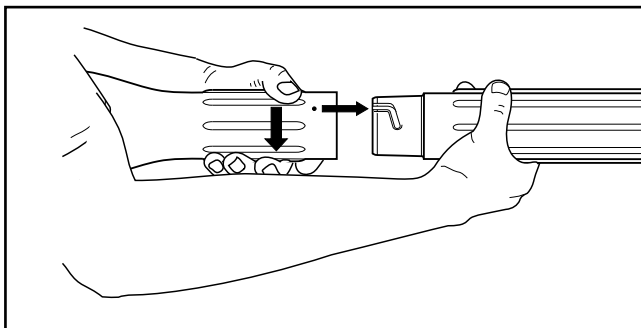

Fig. 2
3. Align the pins of the blower nozzle with the grooves in the blower tube (Fig. 2).